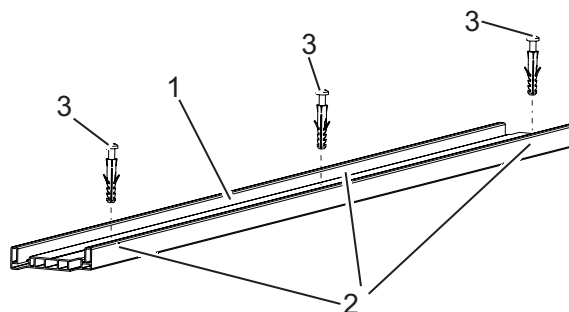

Fig. 8: Mounting the bottom rail
1. Align bottom rail (Fig. 8/1) according to the system drawing.
2. Mark the boreholes (Fig. 8/2) and drill the holes.
3. Fasten the bottom rail with screws and wall plugs (Fig. 8/3) suitable for the building fabric to the floor.